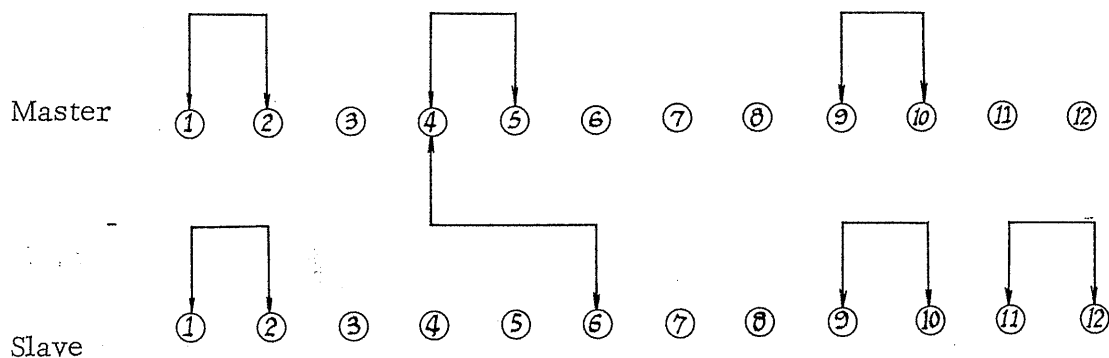

Fig. 8
- (1) After connecting the equipment as illustrated in Figs. 8 and 9,